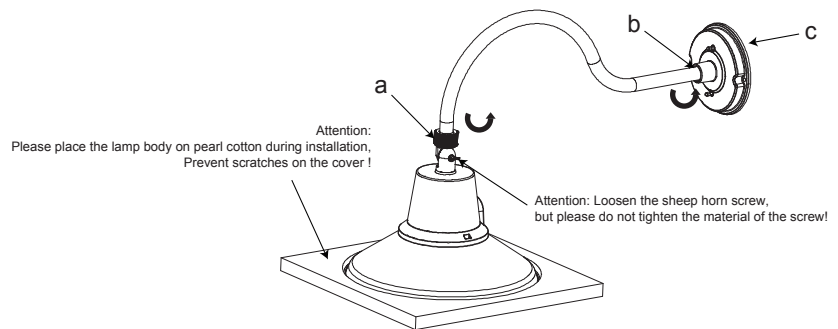

Fig 2
- Rotate the base to fix the lamp tube (Fig 2)
- Remove the mounting plate from the back (Fig 2)